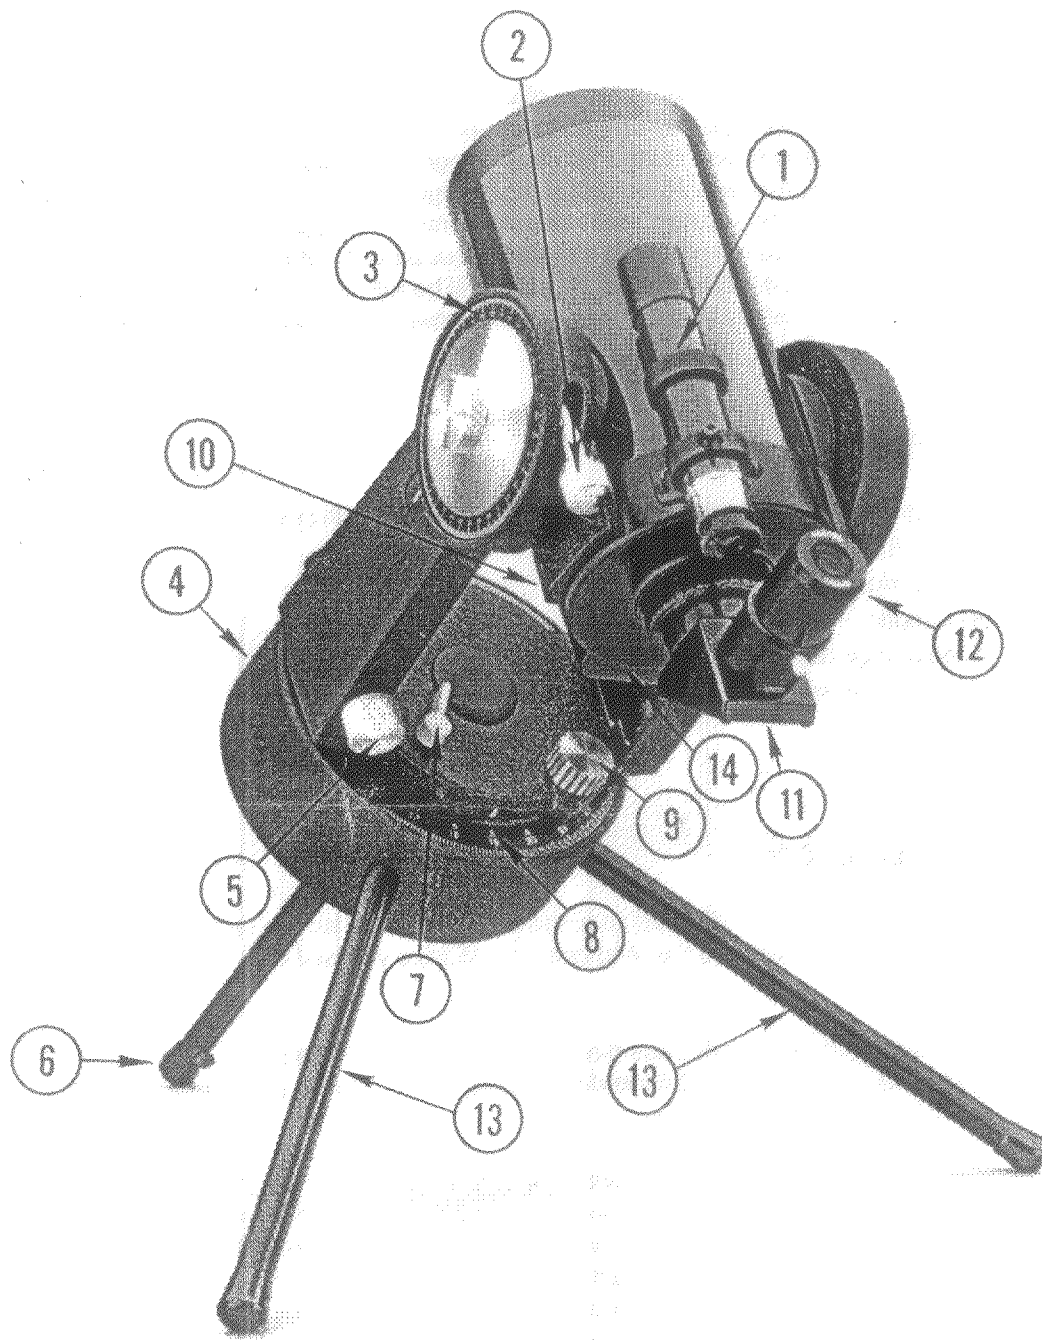

Fig. 1 — Meade Model 2045
The basic Model 2045 telescope is shipped as a completely assembled instrument. After removing the telescope from its shipping carton and carrying case, familiarize yourself with the various controls and accessories (See Fig. 1).
The eyepiece holder/diagonal prism threads directly onto the rear cell thread of the telescope and, in turn, accepts the supplied eyepiece. The 5x24 viewfinder attaches to the rear portion of the telescope with the supplied hardware (see (1), Fig. 1).
By unlocking the R.A. lock (7), Fig. 1, the telescope may be turned rapidly through wide angles in Right Ascension (R.A.) The reason for the terminology "Right Ascension" and its complementary term "Declination" will be made clear further on in this manual. For now, "Right Ascension" simply means "horizontal" and "Declination" means "vertical."
Release the Declination lock (2), Fig. 1, by rotating the control lever in a counterclockwise direction. This permits sweeping the telescope through wide angles in Declination.
To use the Declination fine-adjust, or slow-motion control, lock the telescope in Declination using the Declination lock (2) Fig. 1, and turn the Declination slow-motion knob (5), Fig. 1.
With the above mechanical operations in mind, select an easy-to-find terrestrial object as your first subject — for example a house or building perhaps one-half mile distant. Unlock the Dec. lock (2), Fig. 1, and R.A. lock (7), Fig. 1, center the object in the telescopic field of view and then re-lock the Dec. and R.A. locks. Precise image centering is accomplished by using the Dec. and R.A. slow motion controls (5) and (9), Fig. 1.
1. Attach the 3 tripod legs to the telescope, as shown in Fig. 1. Note that one leg is adjustable in length. This leg should be threaded into the central hole on the underside of the drive base.
- b. Lengthen or shorten the adjustable tripod leg (6), Fig. 1, until the angle it makes with the horizontal is equal to your latitude. (Most road maps show latitude). Use a protractor for this operation: hold the protractor up to the tripod leg and adjust the leg length until the leg angle to the horizontal equals your latitude.
As a separate procedure, during your first use of the telescope, you should check the calibration of the Declination setting circles (see (3), Fig. 1), located at the top of the two fork arms. With Polaris in the field of the viewfinder or in the field of the main telescope if properly polar aligned, loosen slightly the knurled central hubs of both Declination setting circles. Now turn each circle until each reads 89.2°, the Declination of Polaris, and then tighten down the knurled knob, avoiding any motion of the circle.
Supplied as standard equipment with the Model 2045 is an extremely accurate drive gear drive system, driven by a precision pulse motor. The power cord from the battery pack plugs into the bottom of the telescope's drive base. The North-South switch, located on the bottom plate of the drive base (see (4), Fig. 1), reverses the motor drive direction, thus permitting use of the telescope in both the Northern and Southern hemispheres.
With the telescope set up in the equatorial mode (as described above under "Lining Up with the Pole"), plug the power cord into the drive base. Immediately, if you put your ear to the drive base of the telescope, you will be able to hear the low level noise created by the running motor. The drive system turns the fork mount of the telescope through one complete revolution every 24 hours, and results in the stars "standing still" as you view them through the telescope eyepiece. The motor drive also drives the R.A. setting circle, (see (8) Fig. 1), as described in the next section.
The motor drive is engaged by turning the R.A. lock (see (7), Fig. 1) to the locked position. Simply "unlock" the R.A. lock to disengage the motor drive when manually pointing the telescope at another object.
Setting circles included with the Model 2045 permit the location of faint celestial objects not easily found by direct visual observation. Located on the top surface of the telescope's drive base, the R.A. circle (7), Fig. 1, is 6" (15cm) in diameter. The Declination circles (see (3), Fig. 1), are located on top of each fork tine. With the telescope pointed at the North Celestial Pole, the Dec. circle should read 90° (understood to mean +90°). Objects located below the 0-0 line of the Dec. circle carry minus Declination coordinates. Each division of the Declination circle represents a 1° increment. The R.A. circle runs from 0^{hr} to (but not including) 24^{hr}, and reads in increments of 5^{min}.